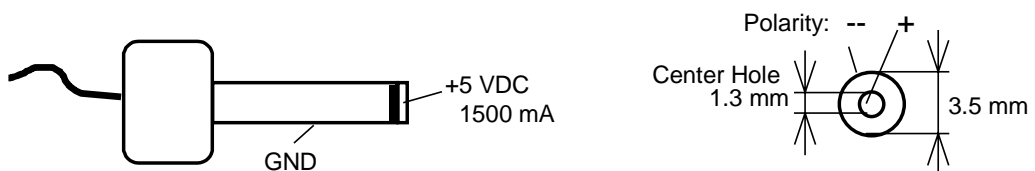

Figure 3: Power Connector
- Using the included power adapter, connect the power socket on the board (X1) to a power supply (*refer to Figure 3 for the correct polarity*).